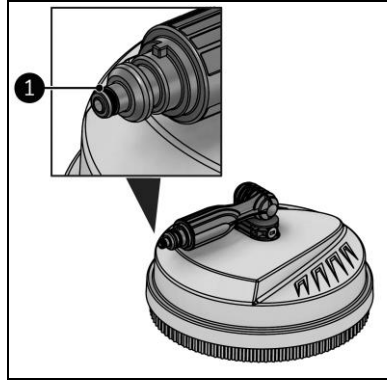

Figure 17
4. Apply Vaseline to the O-ring of the floor cleaner (Figure 17, pos. 1).